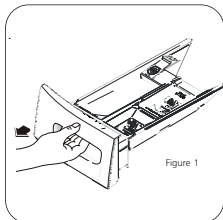

Figure 1
- Remove the drawer by pulling the drawer out until it stops. (Figure 1)